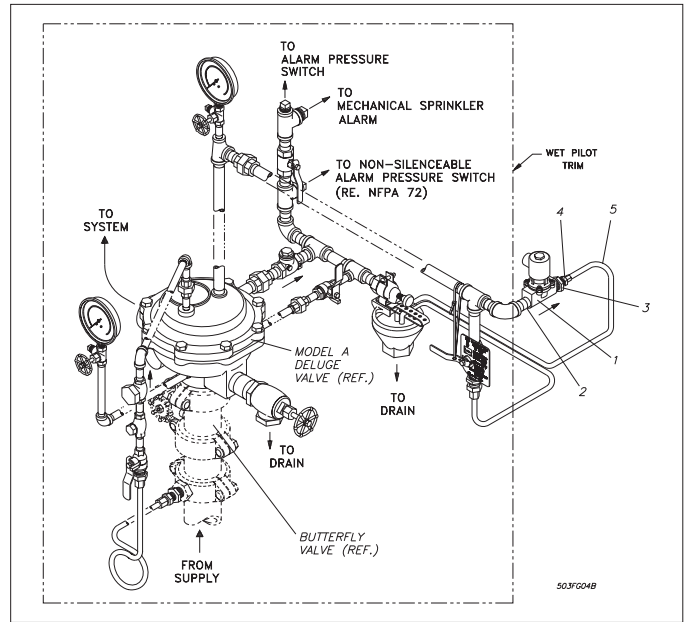

Figure 4 - Electric Actuation Trim
This trim (Figure 4) uses Solenoid Valve (1), attached to the wet pilot trim for releasing the deluge valve. Details on the electrical portion of this trim can be found in Reliable Bulletin 700, which describe de-